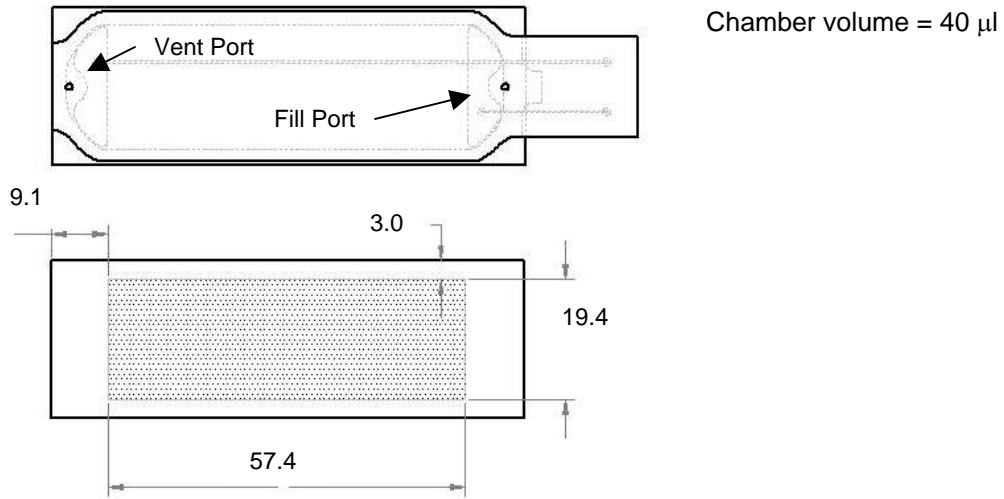

Figure 10: MAUI Mixer FL
- The different MAUI Mixer configurations and recommended printing areas are shown in Figs. 10 -16. All dimensions are in mm.
Volume	See Figs. 10 – 16